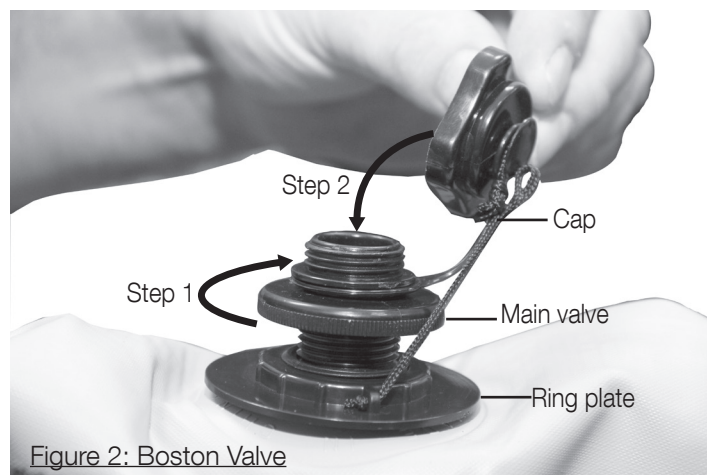

Figure 2: Boston Valve
- 2) Unfold the kayak completely to prepare for inflation. The Floor valve (#1) is a Boston-type valve. The Main valve must be securely screwed into the Ring Plate before inflation as shown in Figure 2, Step 1. Inflate the floor with the valve closed.
- 3) First inflate the Floor (#1) to 1.0 psi (0,07 bar). Once inflated, firmly cap each valve as shown in Figure 2, Step 2. DO NOT OVER-FILL.
- 4) Next prepare the Side Tube valves (#2), which are also Boston-type valves. The Main valve must be securely screwed into the Ring Plate before inflation as shown in Figure 2, Step 1.
Once inflated, firmly cap each valve as shown in Figure 2, Step 2.
prevent tangling ALWAYS dis-assemble parts in REVERSE order (Steps 2, 1) as shown in Figure 2.
- 2 a. IF the leak is in a section of the kayak which is covered in polyester fabric, locate the zipper for the leaking section and open it to access the bladder. Remove the Boston valve Cap, Main Valve AND Ring Plate (see Figure 2 for details). Once this is done, remove the bladder from the cover.